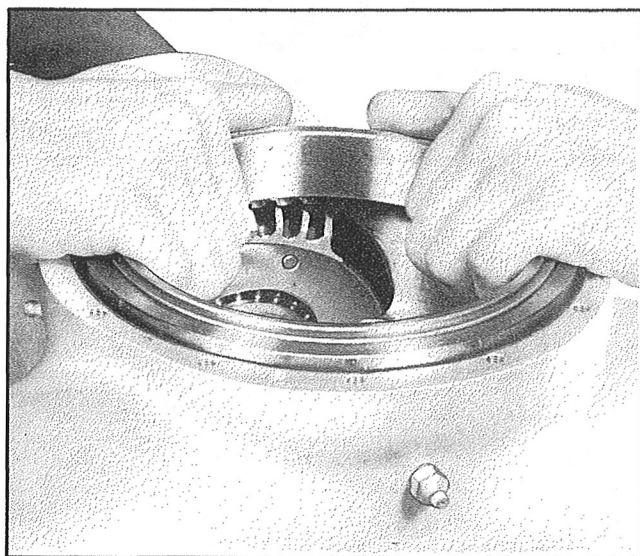

Figure 98—Removal of the Master Gear
*Step 4.*—Withdraw the master gear and attached bearing assembly using the hands only, as shown in Figure 98.